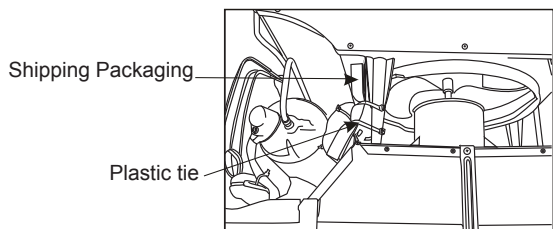

Fig. 7
10. Your unit may come with internal packaging. This packaging must be removed prior to installing the air conditioner back into the cabinet. (see Fig. 7).